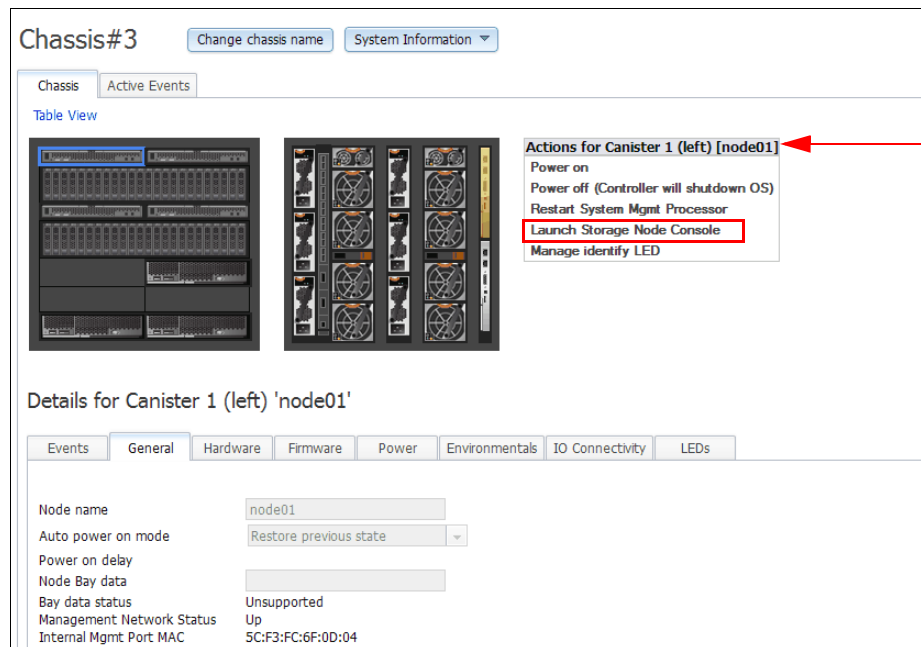

Figure 4-8 CMM - Select Launch Storage Node Console
2. Select the **Actions** menu and click **Launch Storage Node Console**. The Action menu can be found by right-clicking the left canister in the graphical representation of the storage node, as shown in Figure 4-8.